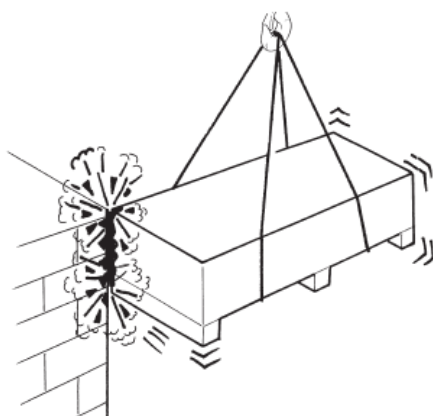

fig.67
- ▶ **ALWAYS** ensure that the load does not encounter obstacles during handling operations (lifting and traversing) (fig. 67).